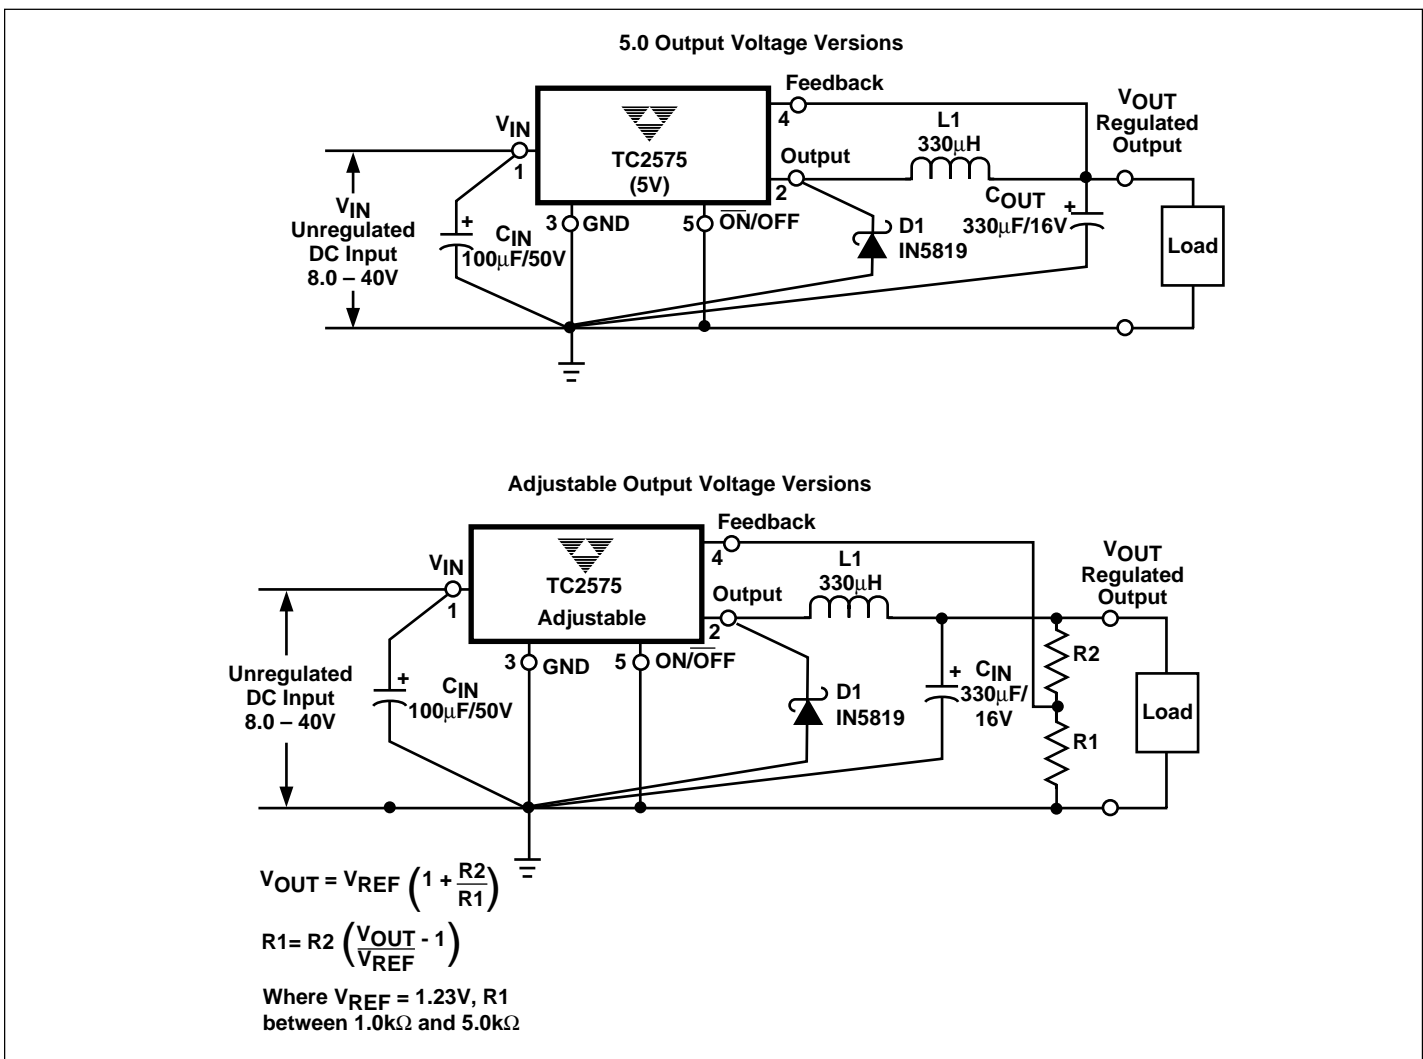

Figure 2. Typical Test Circuit
TC2575-3.3 [(Note 1) Test Circuit Figure 2]
TC2575-5 [(Note 1) Test Circuit Figure 2]
TC2575-12 [(Note 1) Test Circuit Figure 2]
TC2575-Adjustable Version [(Note 1) Test Circuit Figure 2]
- External components such as the catch diode, inductor, input and output capacitors can affect the switching regulator system performance. When the TC2575 is used as shown in the Figure 2 test circuit, the system performance will be as shown in the system parameters section of the Electrical Characteristics.
As in any switching regulator, the layout of the printed circuit board is very important. Rapidly switching currents associated with wiring inductance, stray capacitance and parasitic inductance of the printed circuit board traces can generate voltage transients which can generate electromagnetic interferences (EMI) and affect the desired operation. As indicated in the Figure 2, to minimize inductance and ground loops, the length of the leads indicated by heavy lines should be kept as short as possible.
<p>1. Programming Output Voltage</p> <p>To select the right programming resistor R1 and R2 value (see Figure 2) use the following formula:</p> $V_{OUT} = V_{REF} \left(1.0 + \frac{R2}{R1} \right) \text{ where } V_{REF} = 1.23V$ <p>Resistor R1 can be between 1.0kΩ and 5.0kΩ. (For best temperature coefficient and stability with time, use 1% metal film resistors).</p> $R2 = R1 \left(\frac{V_{OUT}}{V_{REF}} - 1 \right)$	<p>1. Programming Output Voltage (selecting R1 and R2)</p> <p>Select R1 and R2</p> $V_{OUT} = 1.23 \left(1.0 + \frac{R2}{R1} \right) \text{ Select } R1 = 1.8k\Omega$ $R2 = R1 \left(\frac{V_{OUT}}{V_{REF}} - 1.0 \right) = 1.08k \left(\frac{8.0V}{1.23V} - 1 \right)$ <p>R1 = 9.91kΩ, choose a 9.88kΩ metal film resistor.</p>